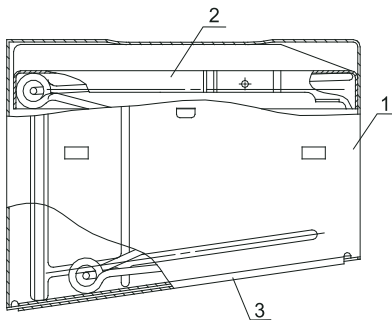

Fig. 8 – Magazine
12. The magazine (Fig. 8) serves to hold the specified quantity of ammunition and to move it to the lips in firing. The magazine is loaded with five rounds in two rows alternatively.